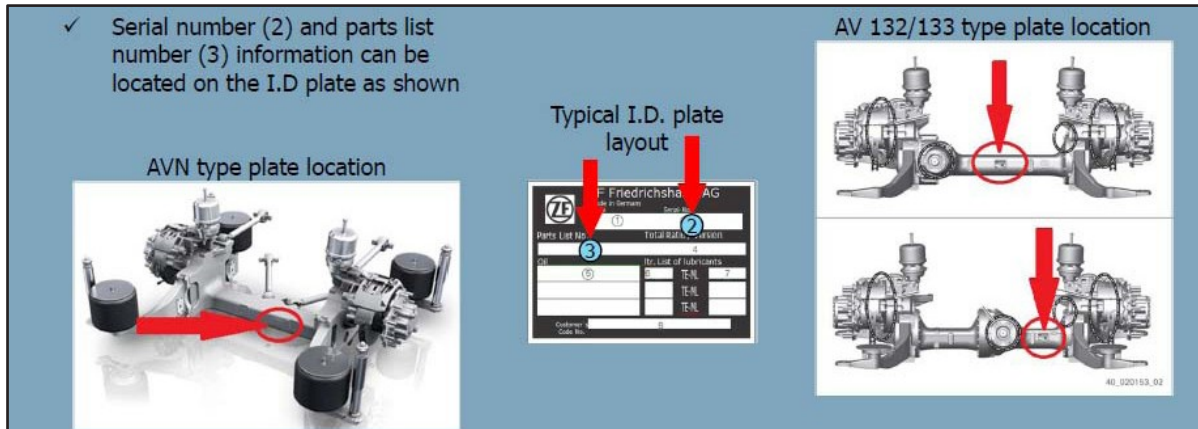

Figure 4 - Axle Serial no.
1.5. Verify and record (see Annex 1) the affected axle serial no. on the type plate (see Figure 4).